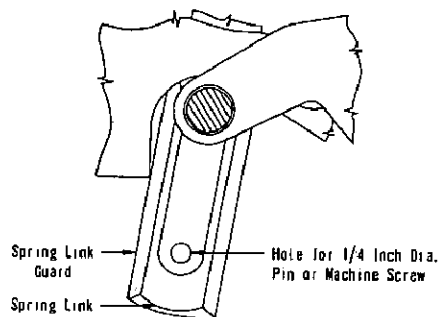

Fig. 4A
1. On K-1600, K-1600S, K-2000 and K-2000S circuit breakers, at each of the two spring guards, loosely install $\frac{1}{4}$ inch diameter pins or machine screws. (See Fig. 4A)
2. Insert a screwdriver or rod through the hole in the escutcheon box (4) and mechanism housing assembly (right-hand side when facing the front of the circuit breaker).
3. Using the top of the hole as the fulcrum and the screwdriver or rod as the lever, depress the hold-up latch (5) at "A" and, at the same time, pull the operating handle downward to slowly close the circuit breaker contacts.